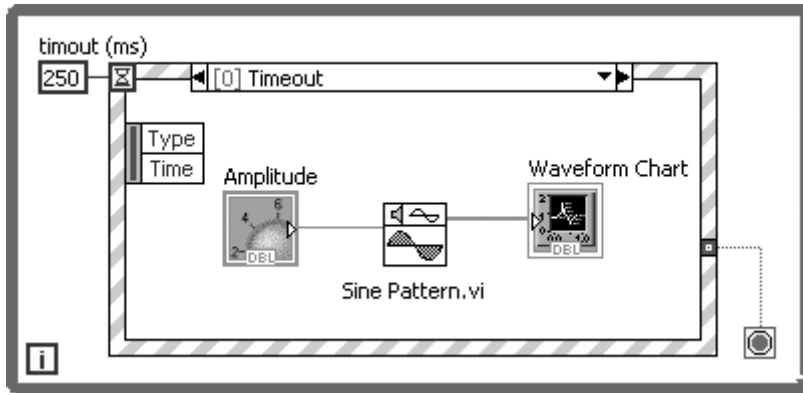

Figure 13.55
3. Your default Event will be the **Timeout** event (see Figure 13.55). Place a **Sine Pattern** function (from the **Signal Processing>>Waveform Generation** palette) here and connect the Amplitude knob to the “Amplitude” input. Connect the output to the chart. Set the Timeout value to 250 ms.